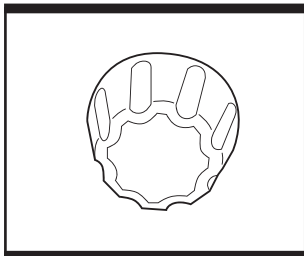

Fig. 3
2. ADJUSTING SANDING BELT TRACKING (Fig. 3)